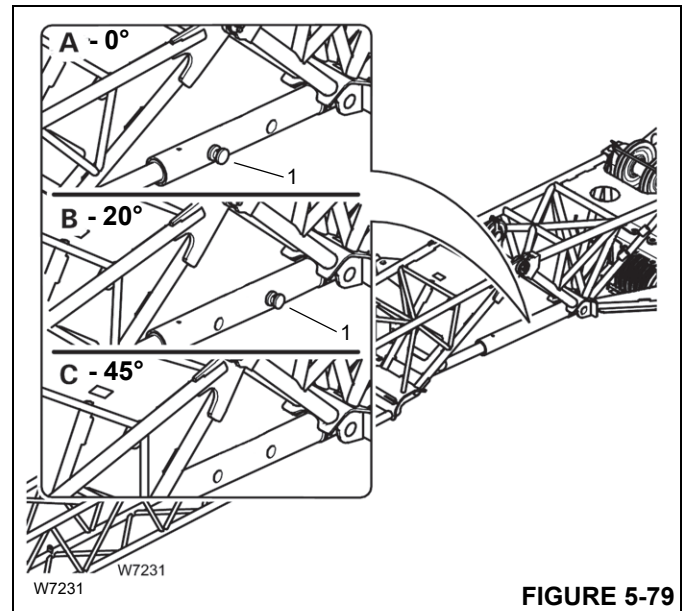

FIGURE 5-79
Refer to Figure 5-79.
1. Lift the extension with the auxiliary crane until the pin (1, Figure 5-79) is relieved of load.
2. Lift or lower the extension with the auxiliary crane until the adjusting pin can be installed into the hole for the required angle (refer to Figure 5-79).
4. Lower and extend the boom until boom extension nose touches the ground and pressure is relieved from the adjusting pin (1, Figure 5-79).
6. Raise or lower the boom until the adjusting pin can be installed into the hole for the required angle (refer to Figure 5-79).